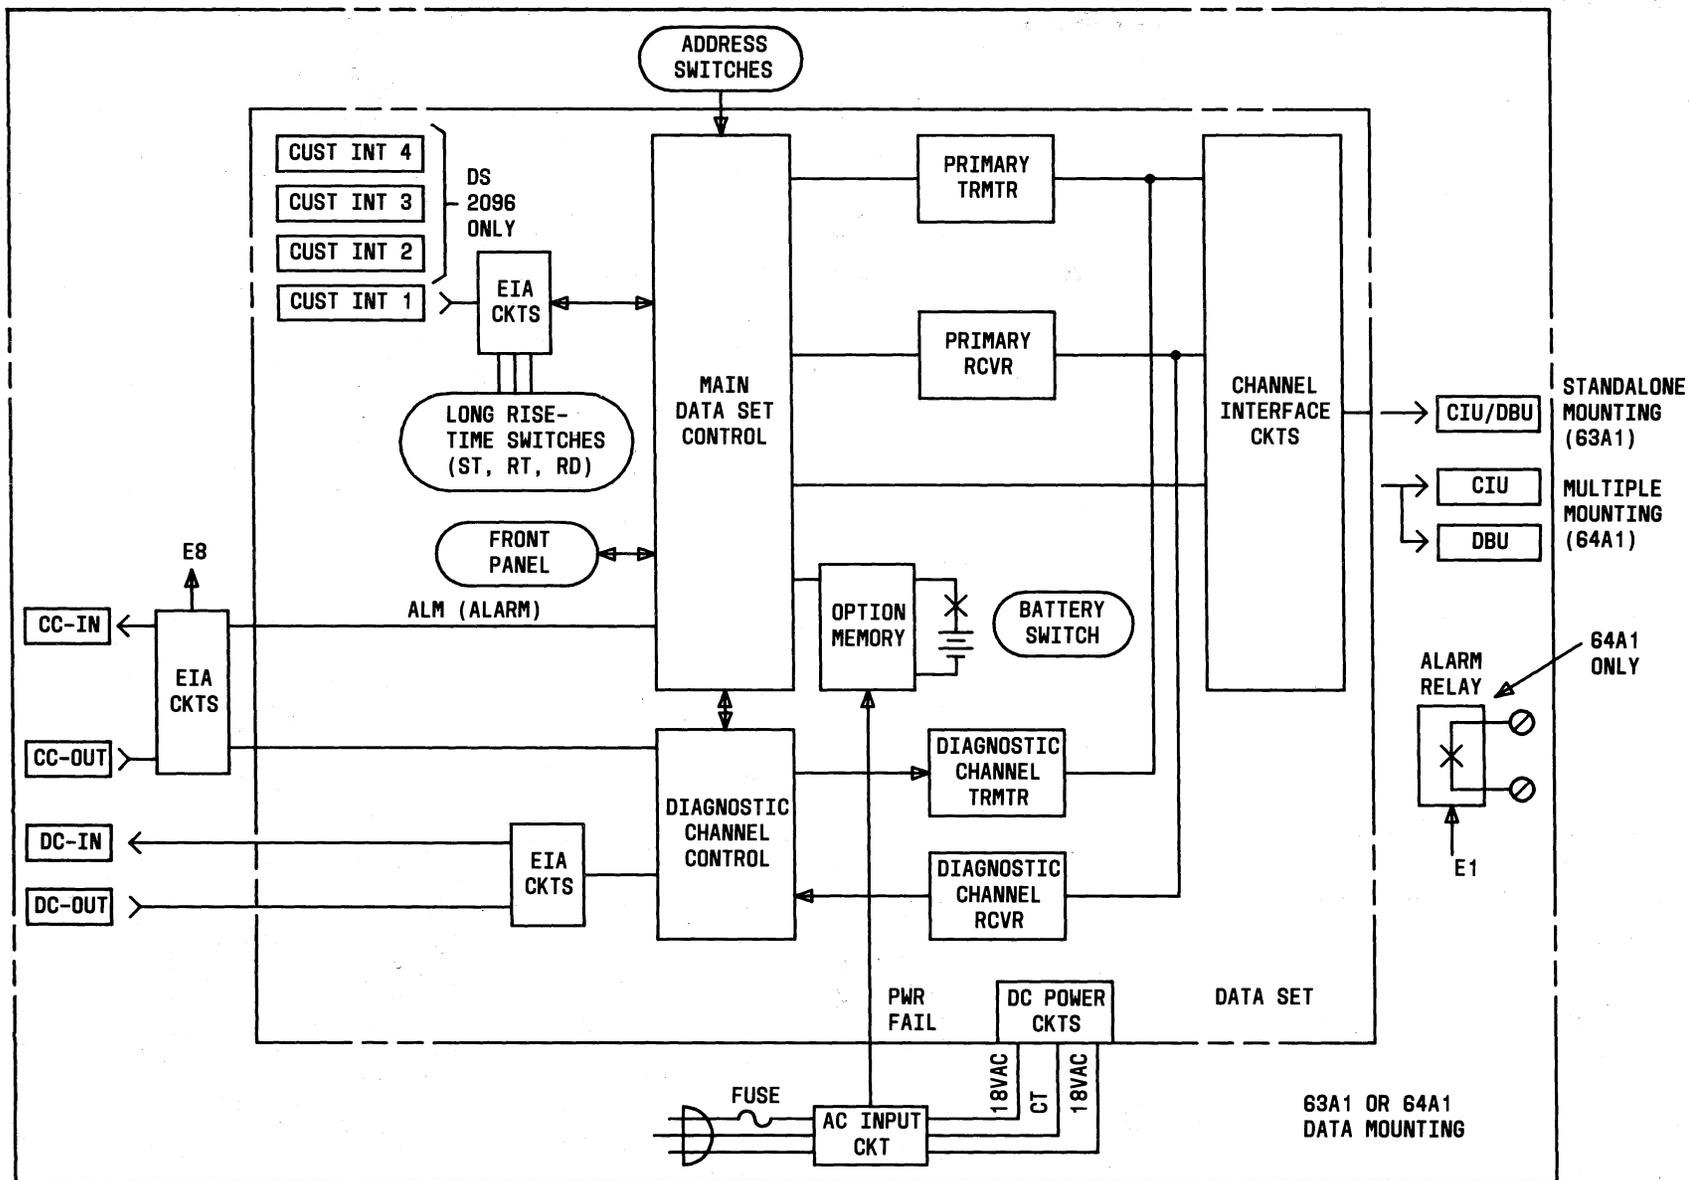

Fig. 12—DATAPHONE II Service Data Set General Simplified Block Diagram
**3.02** Figure 12 contains a simplified block diagram of the major functions of a DATAPHONE II service data set. The data set functions can be considered in two parts: The **main channel** made up of the customer interface, main data set control circuits, primary transmitter, and primary receiver. The **diagnostic channel** made up of the control channel and diagnostic channel interfaces, diagnostic channel control, diagnostic channel transmitter, and diagnostic channel receiver.